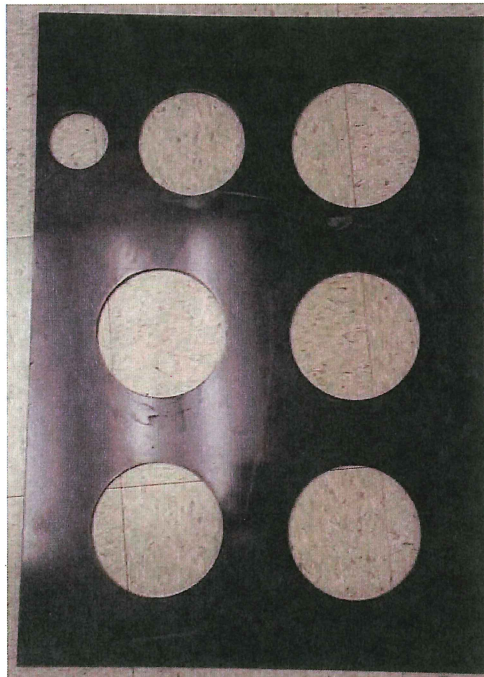

Figure 4: Example of a prefabricated one piece duct spacer
1. Prefabricated one piece duct spacers as shown in figure 4